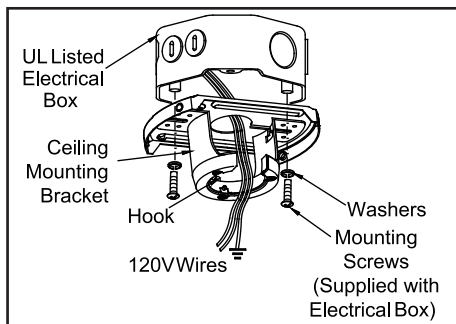

Figure 8
1. Pass the 120-volt supply wires through the center hole in the ceiling mounting bracket as shown in Figure 8.
2. Install the ceiling mounting bracket on the electrical box by using the mounting screws provided with the electrical box. Note that the flat side of the mounting bracket is toward the electrical box. (Figure 8)